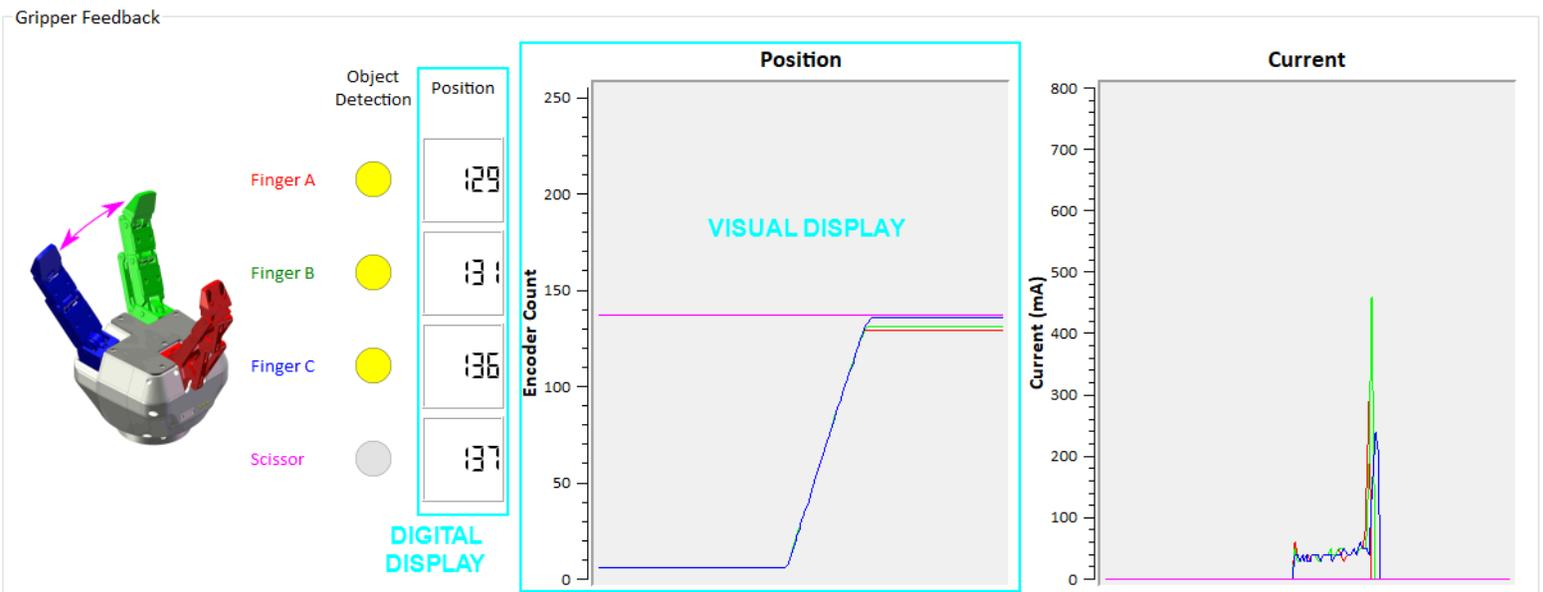

Fig. 5-5: Digital and visual displays of the finger positions and electrical current usage.
- Current** (graphic): The "Current" graph shows the amount of current going through each motor. Each axis has an associated color (see Fig. 5-5:).